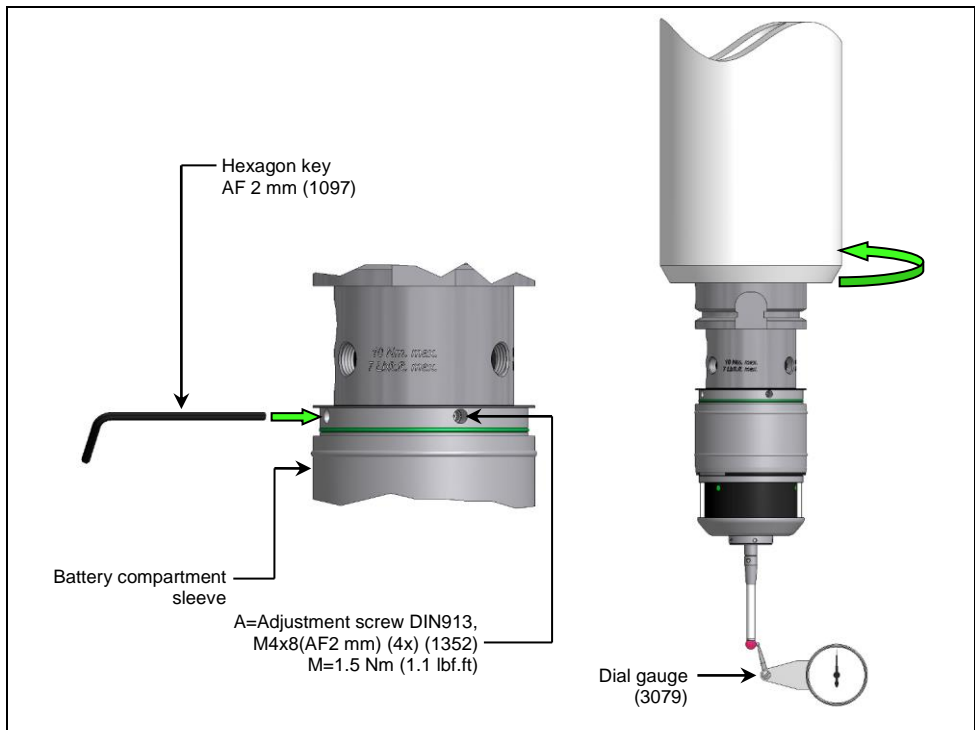

Fig. 11 Align stylus to spindle centre
3. Adjust the probe with the adjustment screws A (4x) to within less than 5 μm (Fig. 11).
4. Tighten the adjustment screws A (4x) against each other (Fig. 11).